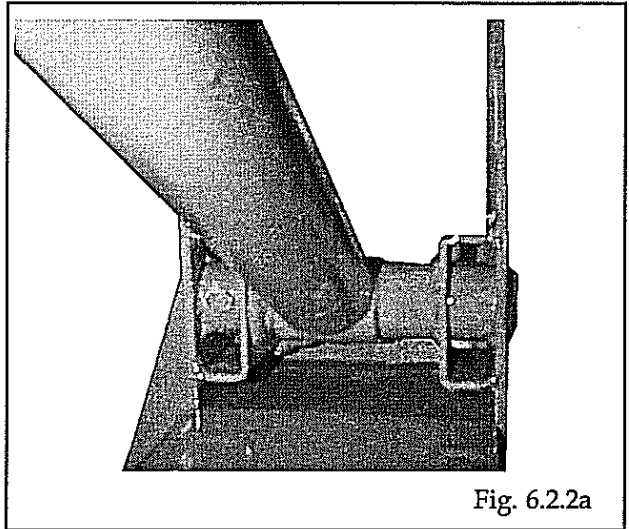

Fig. 6.2.2a
3. Install the locknuts and bolts (Fig. 6.2.2a) in the boom pivot pins.